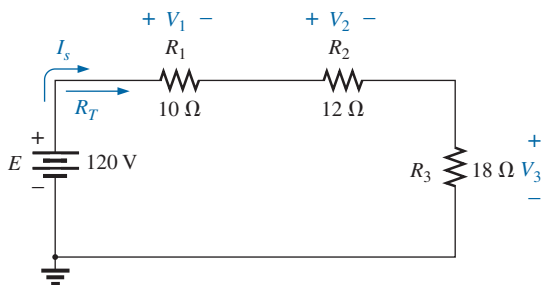

FIG. 5.91
7. For the series configuration in Fig. 5.91, constructed of standard values: